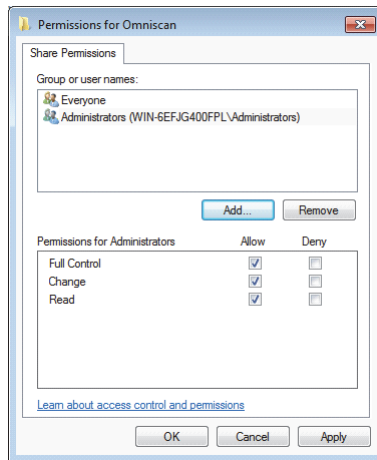

Figure 7-31 The Permissions for Omniscan dialog box (Windows 7)
10. In the **Permissions for Omniscan** dialog box, click **Add** (see Figure 7-31 on page 220).